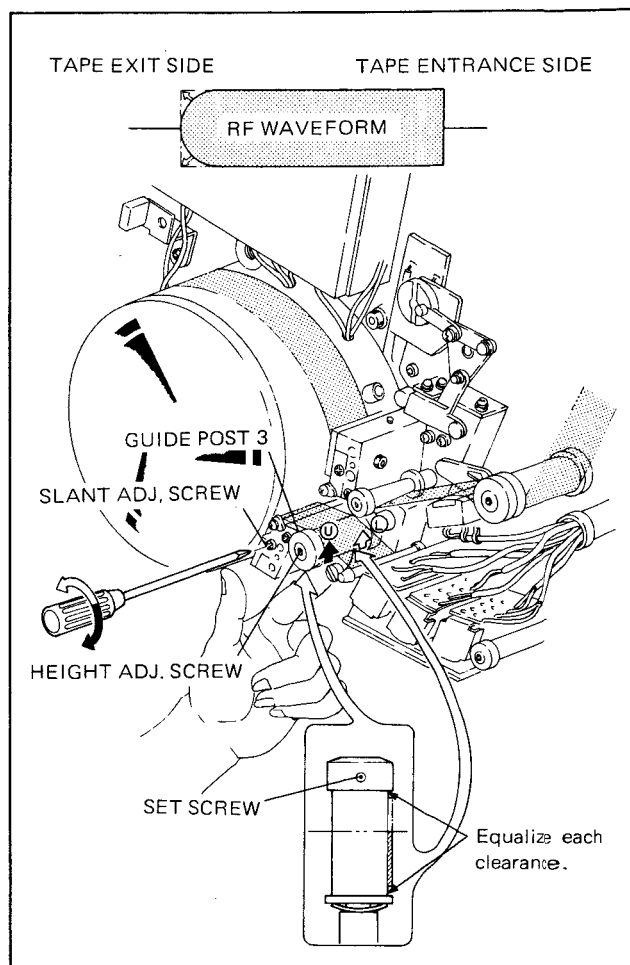

Fig. 3-75. Height Adjustment of Guide Post 3 and Slant Adjustment of Exit slant Guide.
22. Lightly push the \textcircled{U} or \textcircled{L} side of the tape shown in Fig. 3-75 and find out the side whose RF waveform on the tape exit side becomes flat.